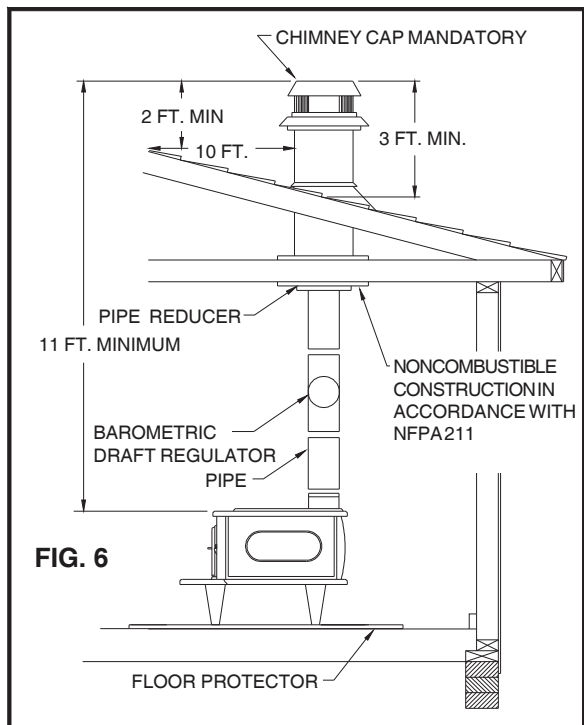

FIG. 6
The masonry chimney must comply with UL codes. Before using an existing masonry chimney, clean the chimney and inspect the flue liner to be sure it is safe to use. Make repairs before attaching the heater. See Page 3, Item 5. Look at Fig. 6. The connector pipe and fittings you will need to connect directly to a masonry chimney are shown. If the connector pipe must go through a combustible wall before entering the masonry chimney, consult a qualified masonry chimney dealer. The installation must conform to local fire codes. **DO NOT CONNECT THIS UNIT TO A CHIMNEY FLUE SERVING ANOTHER APPLIANCE.**
The top of the chimney must be at least 3 feet above the roof and be at least 2 feet higher than any point of the roof within 10 feet. (Fig 6)
5. If the fire burns well but sometimes smokes or burns slowly, it may be caused by the chimney top being lower than another part of the house or a nearby tree. The wind blowing over a house or tree, falls on top of the chimney like water over a dam, beating down the smoke. The top of the chimney should be at least 3 feet above the roof and be at least to 2 feet higher than any point of the roof within 10 feet (Fig. 6).